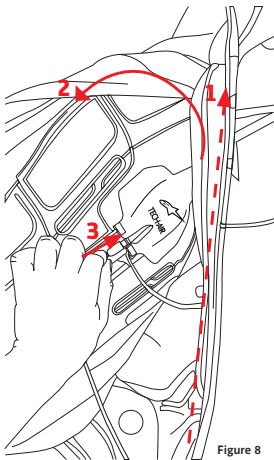

Figure 8
*Tip: When the Tech-Air™ Race airbag system is installed in a leather suit, the MicroUSB port can be accessed easier by unzipping one of the vest attachment zips (1) and partially lifting the vest outward. (See figure 8).*
*Tip: It is easier to access the master switch (8) by first unzipping one of the Vest attachment zips (1) and partially lifting the Vest out of the suit (See Figure 8). Naturally after switching the master switch back on, the vest attachment zip requires to be reattached.*